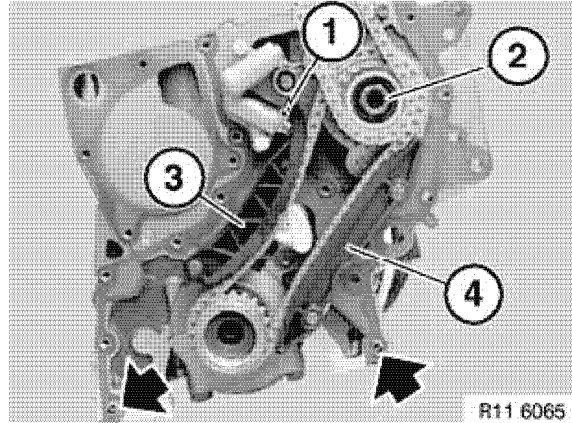

Figure 5-87
2. Compress chain tensioner rail (3, **Figure 5-87**) and retain with special tool OEM No. 11 3 340 (1, **Figure 5-87**).
3. Remove tensioner rail (3, **Figure 5-87**) and guide rail (4, **Figure 5-87**).
4. Remove nut (2, **Figure 5-87**).
8. Install nut (2, **Figure 5-87**) and tighten to 65 N·m (48 ft·lb).
9. Install tensioner rail and guide rail. Remove retainer (1, **Figure 5-87**).